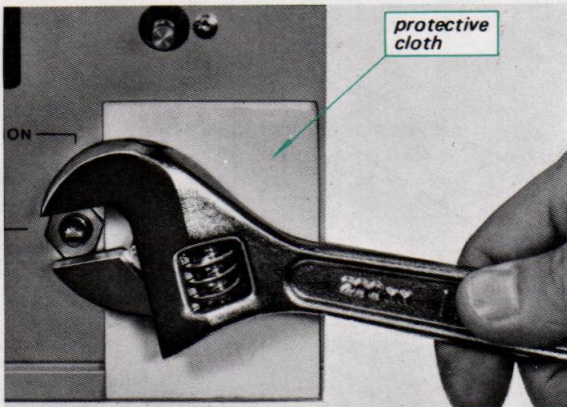
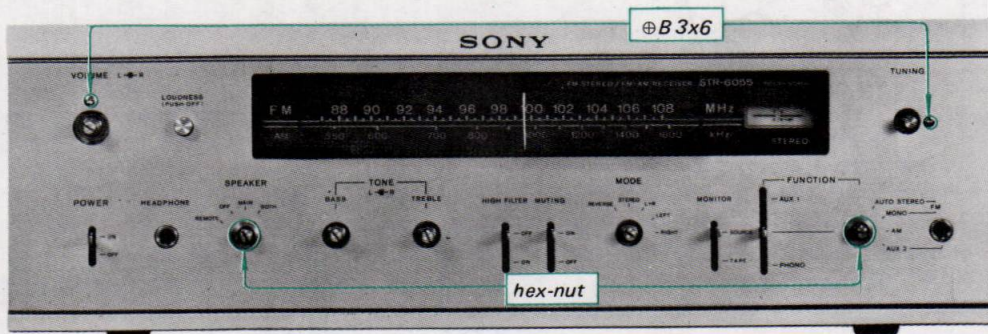

Fig. 2-4. Hex nut removal
Fig. 2-3. Front panel removal
- Remove the two screws ( $\oplus B3 \times 6$ ) and two hex-nuts securing the front panel to the front sub-chassis as shown in Fig. 2-3. Place piece of cardboard or cloth between the wrench and front panel to avoid marring the panel as shown in Fig. 2-4. Now the front panel is free for servicing.